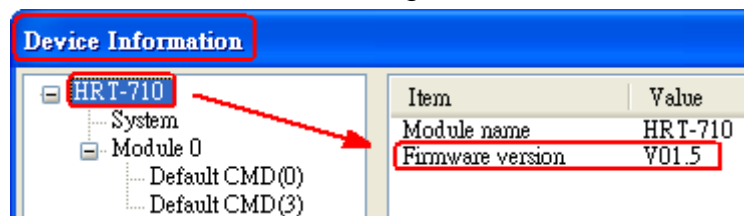

Figure 3-4 Firmware Version of HRT-710
(3) Check the firmware version of HRT-710 like Figure 3-4.